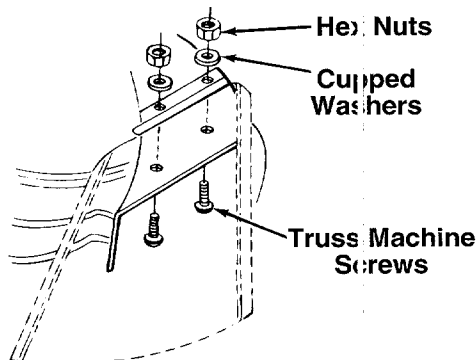

FIGURE 7.—Side Discharge Decks
2. Place the chute deflector in position as shown in figure 7. Secure with hardware just removed.